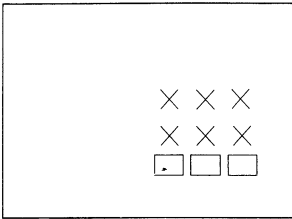

fig. 11
- Adjust the screen VR (G2) to obtain value of 20-40, three values for RGB appear on the screen (Fig. 11).